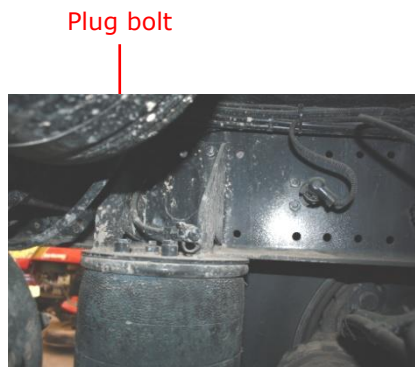
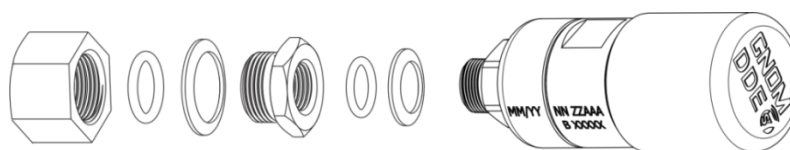

Figure 12 — Example of GNOM DDE S7 mounting location in the Vehicle air suspension cushion pad
Figure 13 — Procedure for GNOM DDE S7 mounting, according to Mounting scheme 1
- 1) The simplest way is to mount the sensor **in the standard hole of the air supply line in the Vehicle air suspension cushion pad**. The sensor is to be mounted here instead of the plug bolt (see figure 12) with M16x1.5 thread or by means of adapter nut M22x1.5 from GNOM MK DDE1 mounting kit (see delivery set), **according to Mounting scheme 1** (see figure 13).